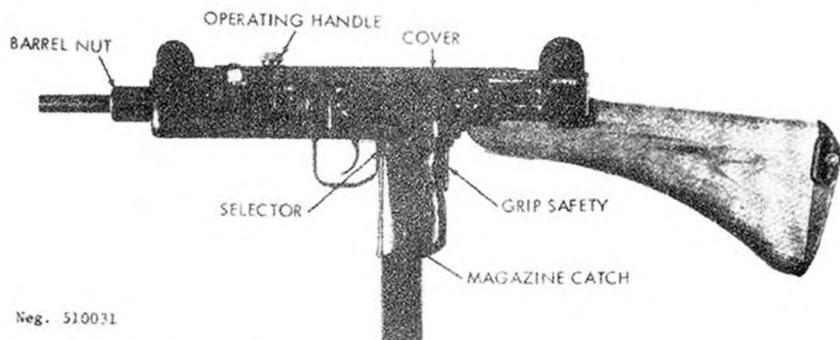
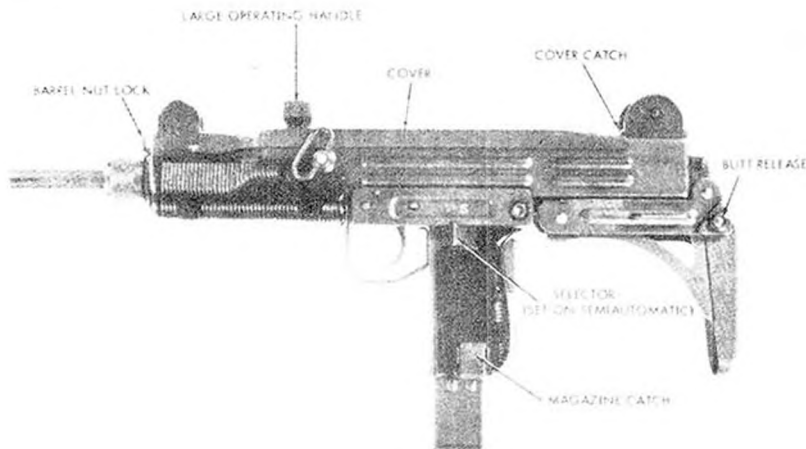

Figure 32. Israeli UZI submachinegun, early model.
Figure 33. UZI submachinegun, late model
a. The 9-mm UZI submachinegun (fig 32 and 33) was designed by an Israeli Army officer in the early 1950's. The design appears to have been influenced by the Czechoslovak M-23 submachinegun. However, the UZI has several novel features for a submachinegun, including a bayonet and a spigot-type grenade launcher. The UZI is a simple gun to manufacture, using a maximum amount of stamped metal parts, and is considered to be an extremely reliable weapon.
c. Like most submachineguns, the UZI fires from an open bolt and can be fired either automatically or semiautomatically. It is fed by 25- or 40-round-capacity box magazines inserted into the pistol grip. Although the UZI is usually equipped with a folding metal butt (fig 33), a wood butt (fig 32), in at least two different lengths, is also used.
b. If the gun is a folding stock model, press the butt release (fig 33), pull down on the butt plate, and unfold the butt. To fold the butt, squeeze the rear half together, just to the rear of the joint, and fold the stock down and forward, insuring that it locks to the receiver.
c. Insert the magazine into the bottom of the butt until the magazine catch snaps into place. After pressing the grip safety (fig 32), pull the operating handle fully to the rear and release it. CAUTION: The UZI is now loaded and ready to fire. If the gun is not to be immediately fired, slide the selector (fig 32) fully rearward to the "safe" position.
e. Remove the magazine by pressing the magazine catch (fig 32 or 33) and pulling the magazine out of the gun.
b. Press in the cover catch (fig 33) and lift the cover (fig 33) from the receiver. Pull the bolt slightly rearward; then swing its front end up and out of the receiver. Separate the bolt and driving spring from the receiver and then from each other.
c. Press in the barrel nut lock (fig 33) and unscrew the barrel nut; pull the barrel (fig 34) forward and out of the receiver.